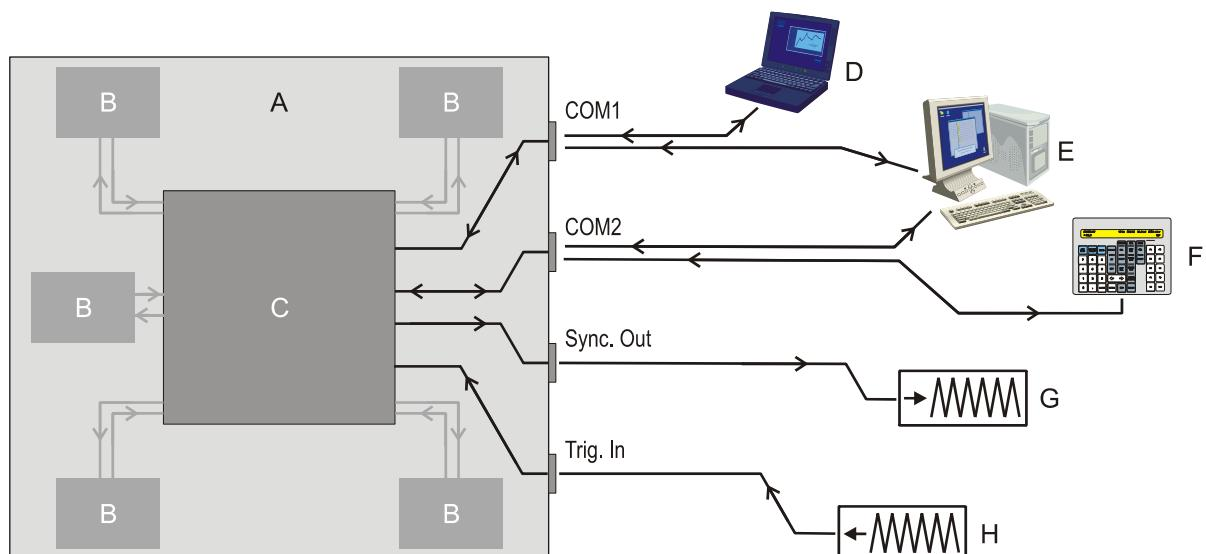

Figure 23: External interfaces and control structure
The COMPexPro (see Figure 23, A) is controlled through a central laser control board (C) that directly communicates with the system's various controllable modules and components (B) such as the HV power supply, energy monitor, trigger board, solenoid valves and ventilators. Depending on the address, communication occurs through 24 V control signals or optically through fiber optic lightwave guides.
Key to Figure 23